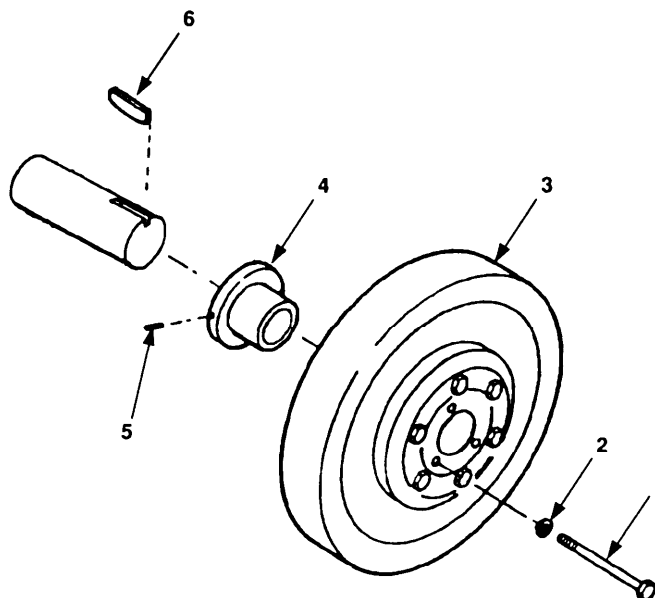

Figure 5-13. Taper Lock Hub Coupling Maintenance.
- c. Remove three screws (figure 5-13, 1) and lockwashers (2) from mounting holes.
- d. Thread two 3 1/2 inch screws into mounting holes where screws (1) were removed.
- e. Tighten screws until flexible coupling (3) is evenly pressed off bushing (4). Remove screws.
- f. Remove flexible coupling (3).
- g. Loosen set screw (5) and remove taper bushing (4) from shaft.
- a. Install bushing (4) to measurement recorded in step b of paragraph 5.6.3.1.
- b. Tap key (6) until it is even with set screw (5), then tighten.
- c* Align flexible coupling (3) on taper bushing (4) with holes in flange end.
- d. Install lockwashers (2) and screws (1). Evenly tighten screws to secure flexible coupling (3) to taper bushing (4).